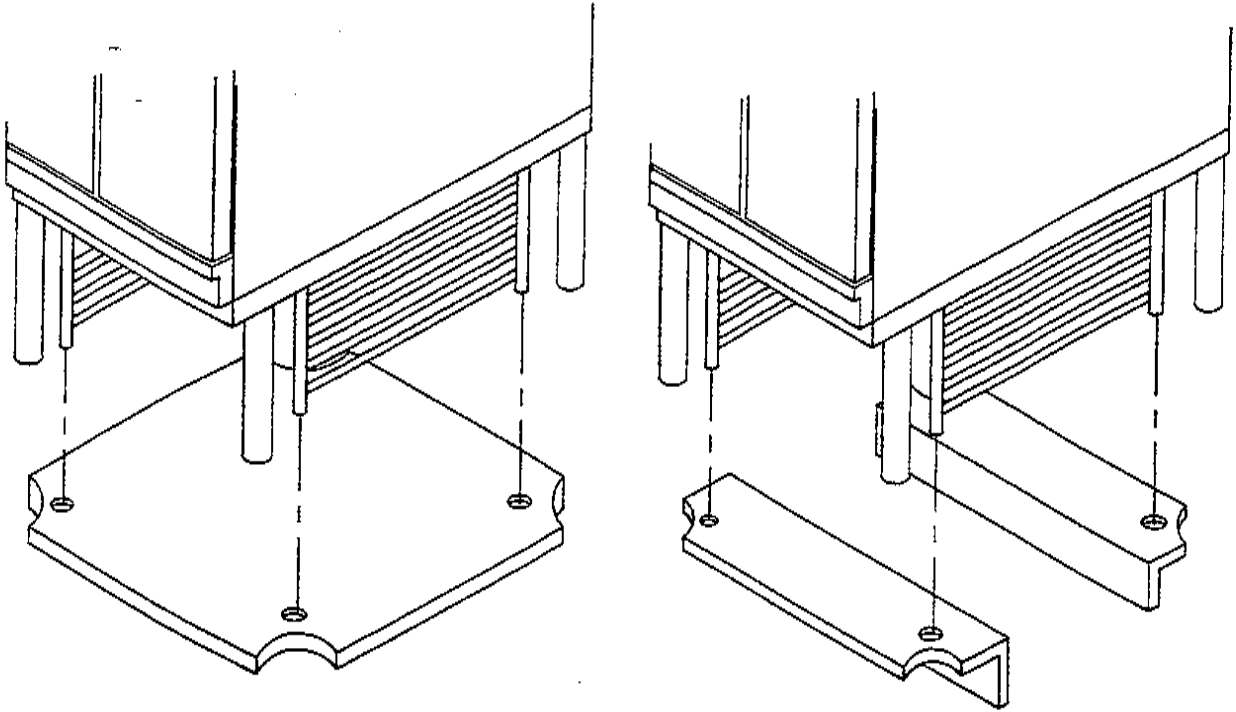

FIGURE 16
5. Insert bottom of rack guides into front and rear holes in shelf. If you have an open rack guide kit, insert bottom of rack guides in to holes in the left and right side of front and rear channel frames. Refer to figure 16.